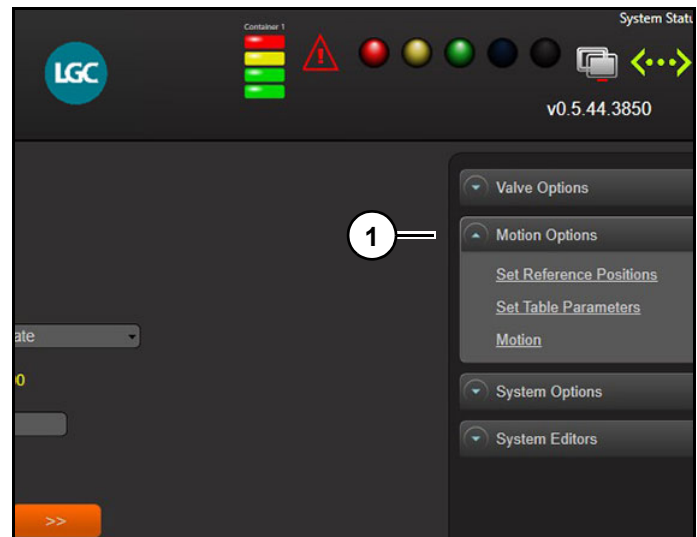

Figure 34
Allows user access to motion options (1) (Figure 34). Options available are: Set Reference Positions, Set Table Parameters, and Motion.